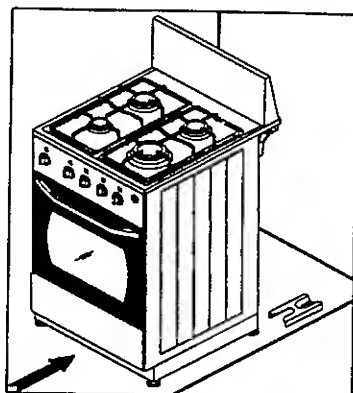

Figure 3
5. Slide appliance into position. (Figure 3)